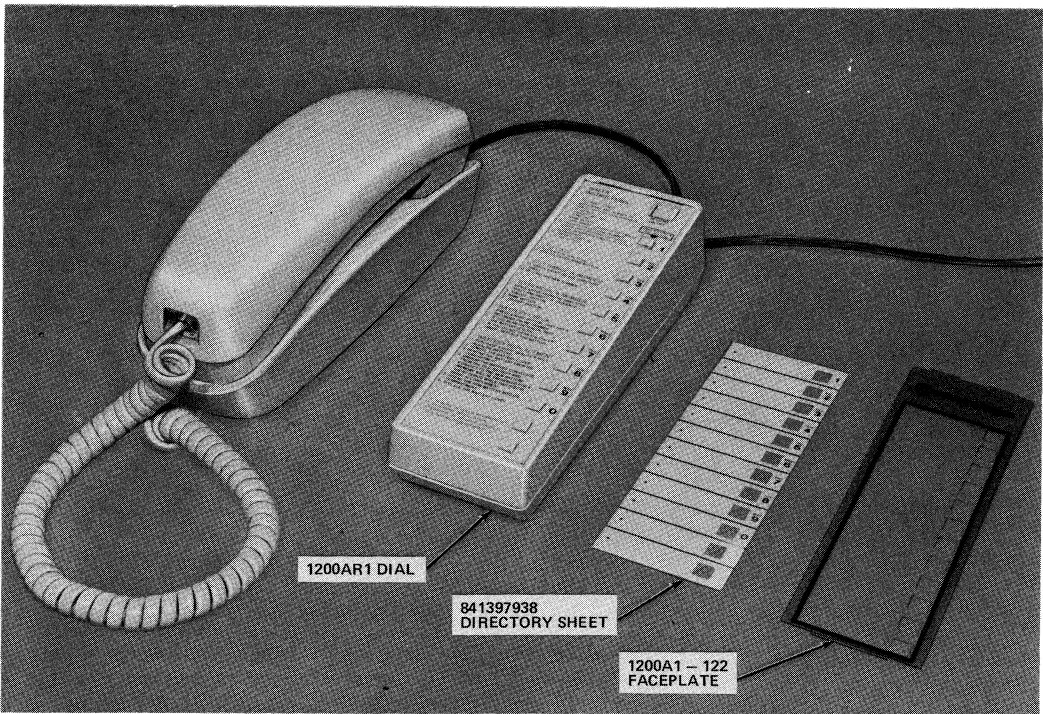

Fig. 6—1200AR1 Dial With Faceplate and Directory Sheet Removed
- (1) Remove the dialer faceplate (Fig. 6 or 7) using fingernail in slot at top.
- (2) Remove the directory sheet and write or type the desired name(s) and number(s). Replace the directory sheet on the dialer.